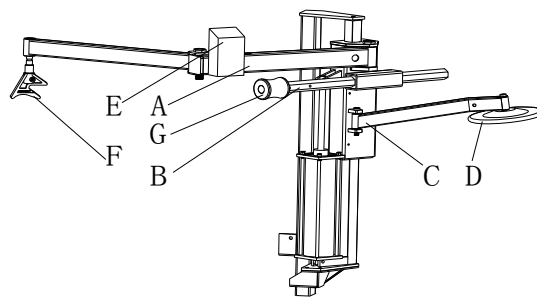

Fig 12
- 4) Install the Rotating arm (A)、Hexagonal horizontal arm (B) and Tire lifting roller support (C) separately on the tire changer;(Fig 12)
- 5) Install the tire lifting roller (D)、 the switch (E)、 tire pressing head (F) and tire pressing roller(G) separately on the tire changer;(Fig 12)
Fig 12 shows functional parts to the 006 device: